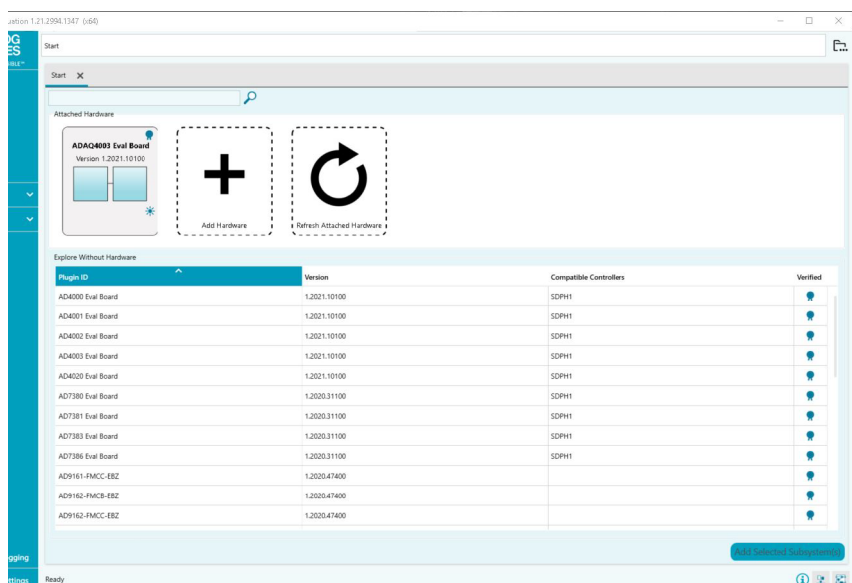
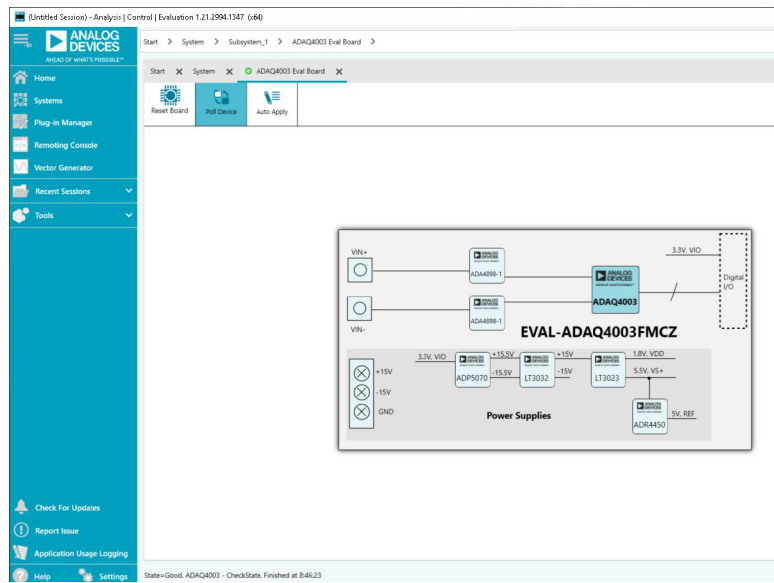
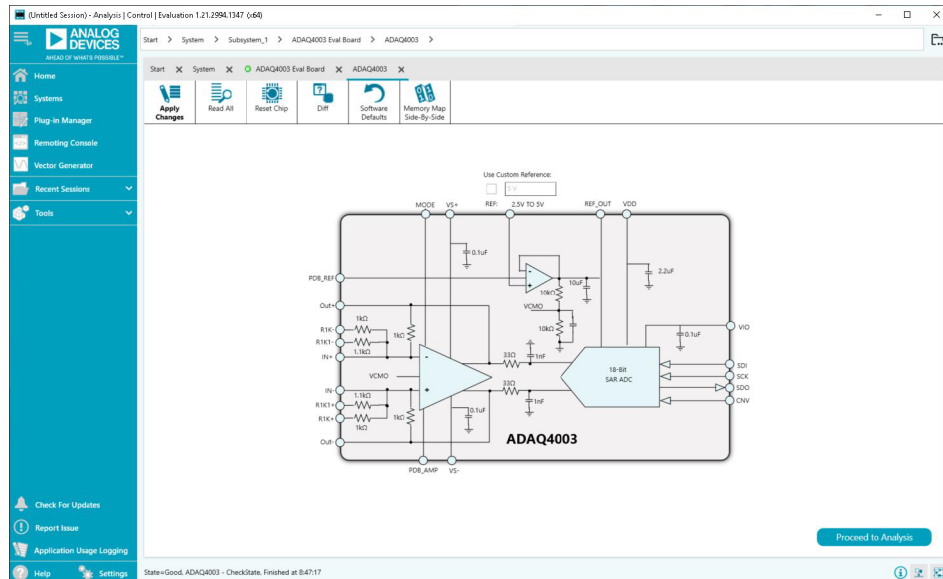

Figure 16. ACE Software Main Window
Figure 17. Board View Window
Figure 18. Chip View Window
1. From the **Start** menu of the PC, click **All Programs > Analog Devices > ACE > ACE.exe** to open the ACE software main window shown in Figure 16.
3. Double click the **ADAQ4001 Eval Board** or **ADAQ4003 Eval Board** icon in the ACE software main window (see Figure 16) to open the board view window shown in Figure 17.
4. Double click the **ADAQ4001** or **ADAQ4003** chip icon in the board view window (see Figure 17) to open the chip view window shown in Figure 18. The on-board voltage reference provided by the **ADR4550** is 5.0 V, as shown in the board view window. Type the value of the reference voltage in the reference voltage box in the chip view window when using the external reference.